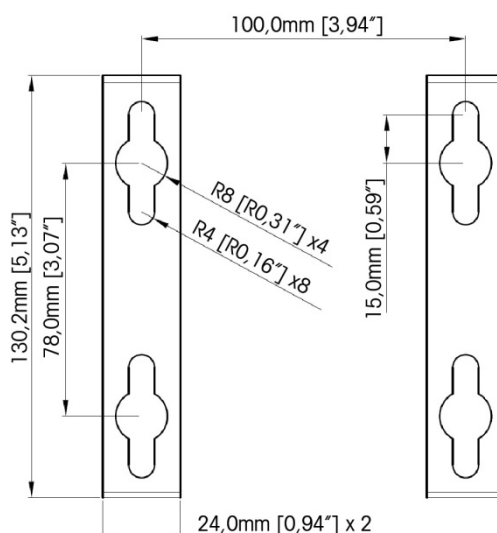

Figure A-23: VESA 100 x 100mm Wall Bracket Mounting Hole Pattern
3. Mark the position of the mounting holes on the vertical surface per the dimensions shown in Figure A-23, or by holding the indicator up to the surface and marking through the bracket holes.